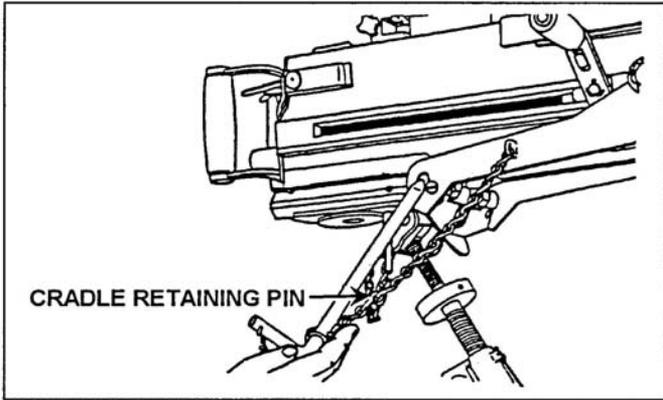

Figure 071-030-0011-9. Insertion of cradle retaining pin
5. Attach the feed throat assembly (figures 071-030-0011-10 and 071-030-0011-11).